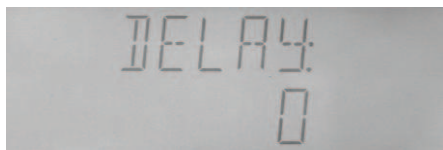

Figure 4-10 Delay setup
- d) Select "DELAY" through 【◀】 or 【▶】 key, as shown in Figure4-10.